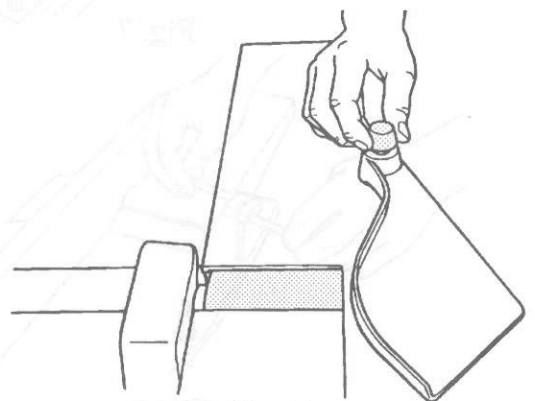

Fig. 4
7. Remove the guard's knob, as seen in Fig. 4. Then remove the guard and the flat washer.